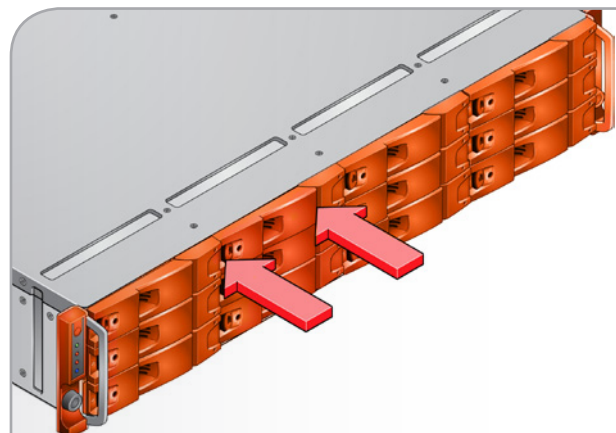

Fig. 48 - Securing the Drive Carrier Module
4. Secure the drive carrier by closing the handle until it fully engages. A click should be heard as the latch engages and holds the handle closed (Fig. 48).